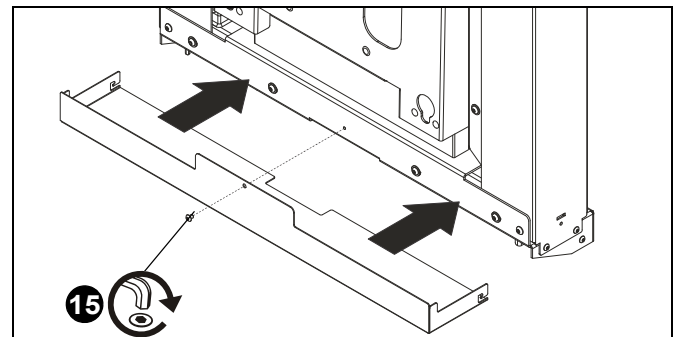

Figure 31
16. Re-install bottom cover and secure with removed button head cap screw. (See Figure 31)